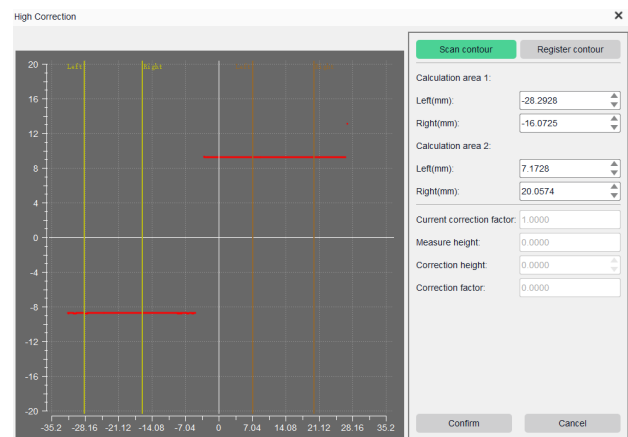

Figure 3.4.12 Drawing the Calculation Region
- 3 On the acquired contour, adjust the positions of Calculation Area 1 and Calculation Area 2 (Calculation Area 1 and Calculation Area 2 must be located at different step heights), as shown in Figure 3.4.12.